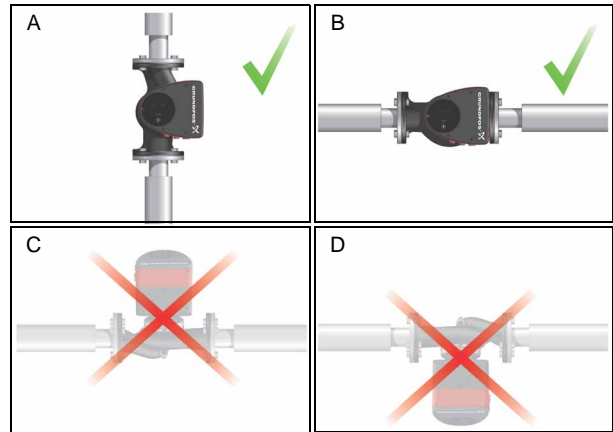

Fig. 9 Pump installed with horizontal motor shaft
- Pump installed correctly in a vertical pipe. See fig. 9, pos. A.
- Pump installed correctly in a horizontal pipe. See fig. 9, pos. B.
- Do not install the pump with vertical motor shaft. See fig. 9, pos. C and D.